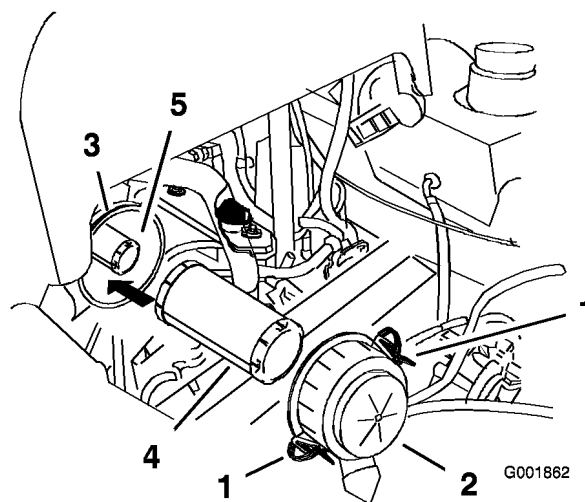

Figure 35
4. Release the latches on the air cleaner and pull the air cleaner cover off of the air cleaner body (Figure 35).
6. Gently slide the primary filter out of the air cleaner body (Figure 35). Avoid knocking the filter into the side of the body.
1. Do not clean the paper filter. Replace it after 200 operating hours (Figure 35).
2. If the safety filter is being replaced, carefully slide it into the filter body (Figure 35).
3. Carefully slide the primary filter over the safety filter (Figure 35). Ensure that it is fully seated by pushing on the outer rim of the filter while installing it.
4. Install the air cleaner cover with the side indicated as UP facing up and secure the latches (Figure 35).